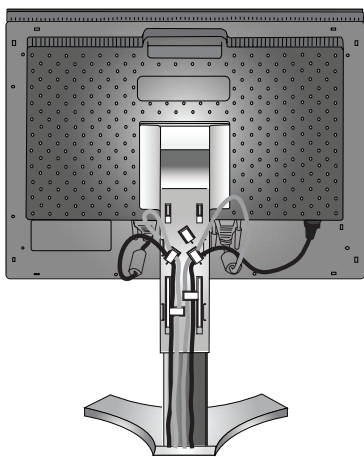

Figure C.3
Place the DVI cable and the 15-pin mini D-Sub to DVI-A cable into the hooks as indicated (**Figure C.3**).
6. Make sure all cables are resting flat against the stand (**Figure C.3**).